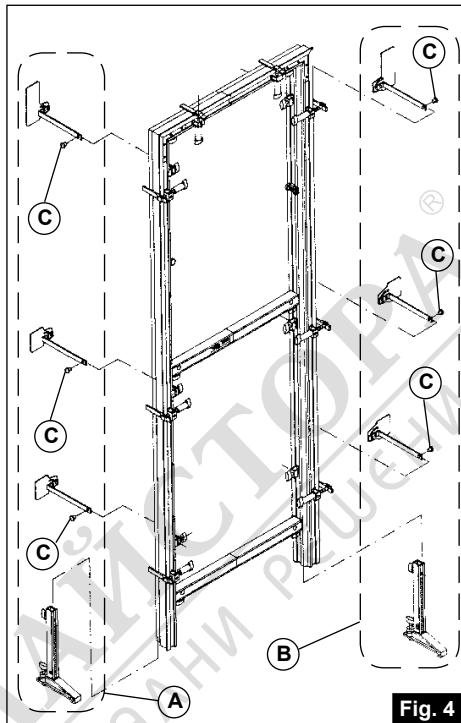

Fig. 4
Inside the packing box you will find the following material: (Fig. 4)
1.- Fit feet "A" and "B" in their positions following the (Fig. 4) diagram